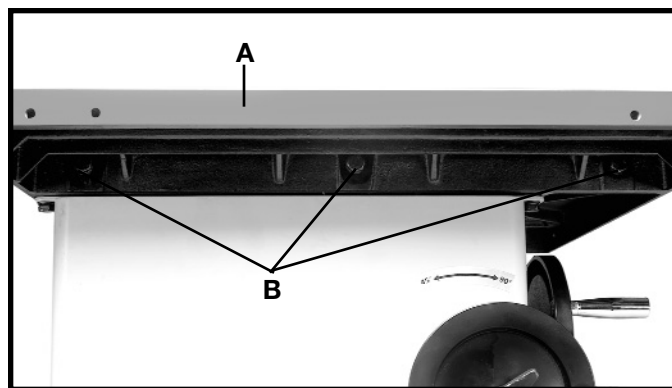
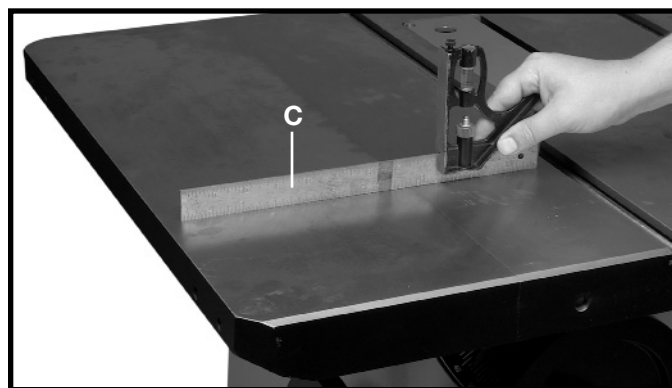

Fig. 6
Fig. 7
Assemble the extension wing (A) Fig. 6, to the left side of the saw table using the three M10x1.5x35mm hex head screws (B) and M10.1 lockwashers supplied. **NOTE: MAKE SURE FRONT EDGE OF WING IS FLUSH TO OR SLIGHTLY BEHIND THE FRONT EDGE OF THE TABLE.** Use a straight edge (C) Fig. 7, to make sure the extension wing (A) is level with the saw table before tightening the screws (B) Fig. 6 with a 17mm wrench.